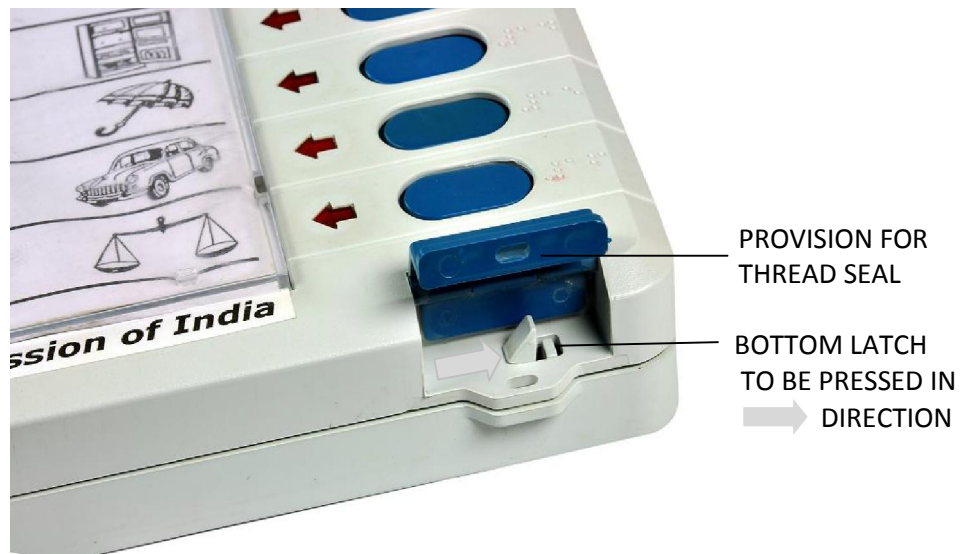

Fig.15 View of Latches
2. After taking out the Ballot Unit from the carrying case, the top cover of the unit may be opened carefully by pressing simultaneously, towards the right, the latches at the top and bottom on the right edge of the unit (Fig. 15), and swinging the cover up (Fig. 5).